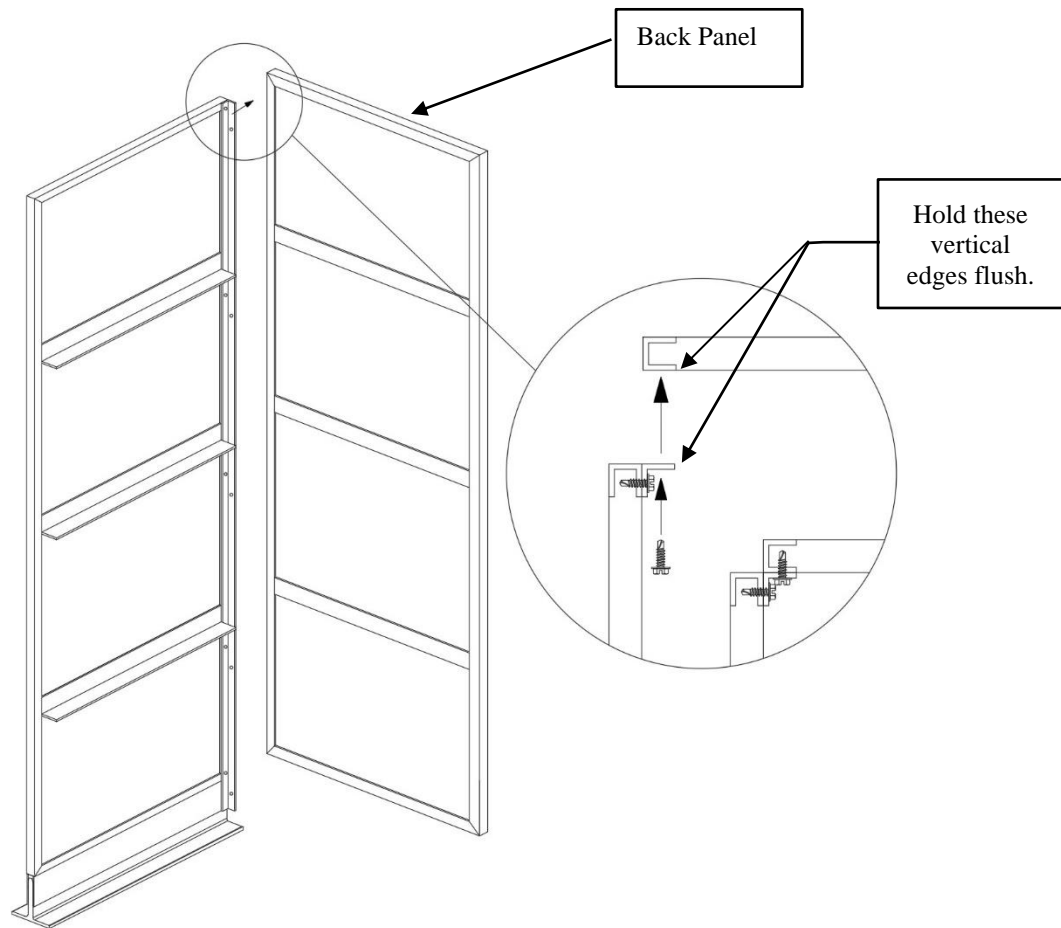

Figure 7
7. Starting from the point you selected in step C-1 place the first “outside division panel” on the corresponding “Sanislope T”. Place the adjacent back panel as shown in Figure 7. Note that the vertical edges of the panel are flush with each other.